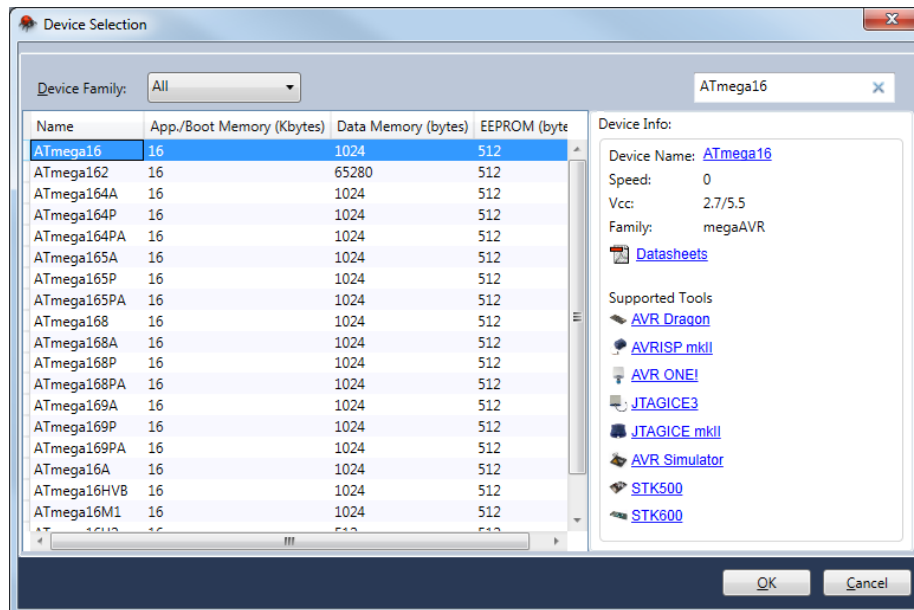

Figure 2: Selecting device.
- In the 'Device Selection' dialog that appears (see Figure 2), search for ATmega16 and then click button **OK**.